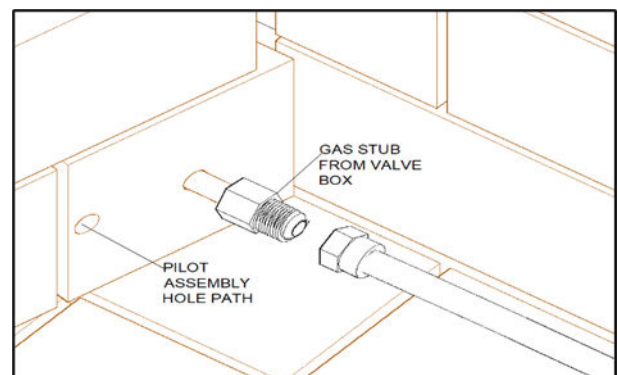

FIGURE 8
7. Connect the open end of 12" flex connector to the gas-supply. (Figure 8)